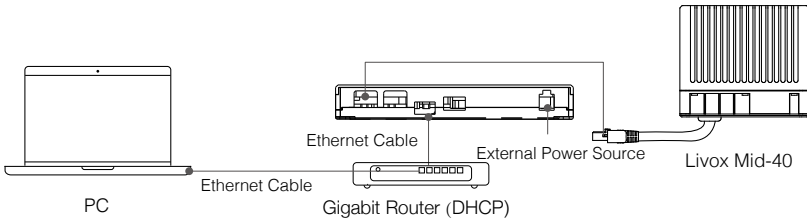
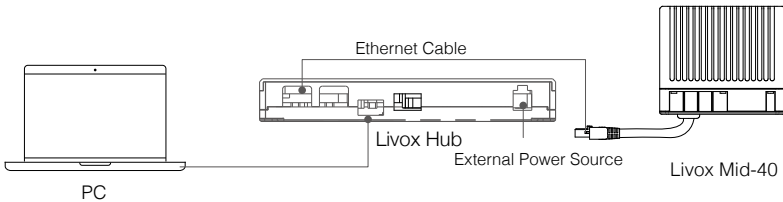

Figure 4.2.1 Connecting using dynamic IP address
Figure 4.2.2 Connecting using static IP address
1. Connect Livox LiDAR sensors, router, external power source, and computer by following Figure 4.2.1.
1. Connect all the Livox LiDAR sensors and Livox Hub as shown in Figure 4.2.1 or Figure 4.2.2. Run Livox Viewer. Click  to open Device Manager. Device Manager will display Livox Hub in the LAN.
1. Connect all the Livox LiDAR sensors and Livox Hub as shown in Figure 4.2.1 or Figure 4.2.2. Run Livox Viewer. Click  to open Device Manager. The Device Manager will display Livox Hub in the LAN.